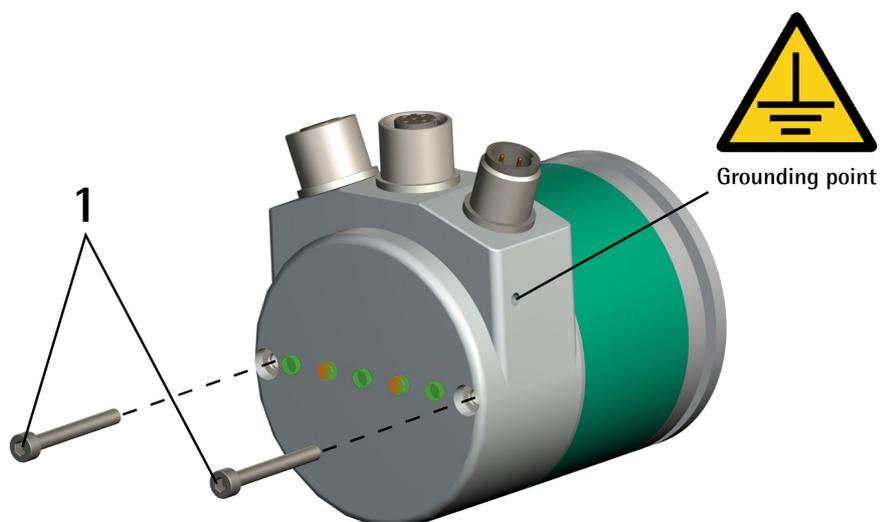

Figure 2 - Removing the connection cap
connection cap. For any information on removing the connection cap please refer to the following "4.9 Connection cap (Figure 2)" section.
- remove the connection cap as explained in the following "4.9 Connection cap (Figure 2)" section;
- replace the connection cap as explained in the following "4.9 Connection cap (Figure 2)" section;
#### 4.9 Connection cap (Figure 2)